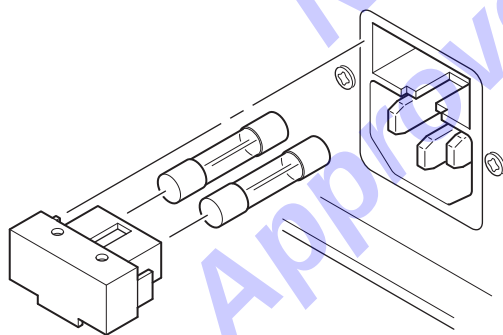

Figure 29 – Fuse Replacement
5. Install two new fuses into the fuse holder (*Figure 29*).